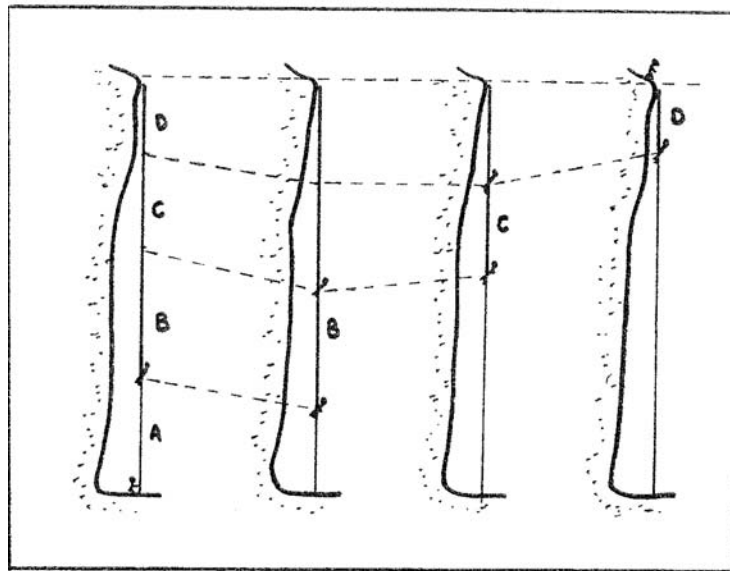

Fig 14.4 Tandem method of surveying a big pitch
- iv) Tandem method. (Figure 14.4). For safety, this method is not suitable for use with lightweight ropes. Jo prusiks up one tape-length, marks a station on the rope with a piece of string or even a safety pin with a streamer on it! Leg A is measured. Rob goes up the mark while Jo continues; they then measure leg B, etc. etc. Total pitch length is then $A+B+C+D$.